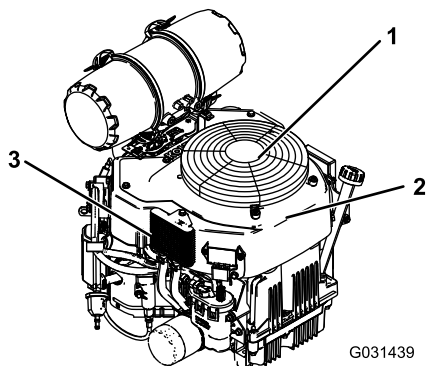

Figure 64
3. Remove the air-intake screen and fan housing (Figure 64).
5. Install the air-intake screen and the fan housing (Figure 64).